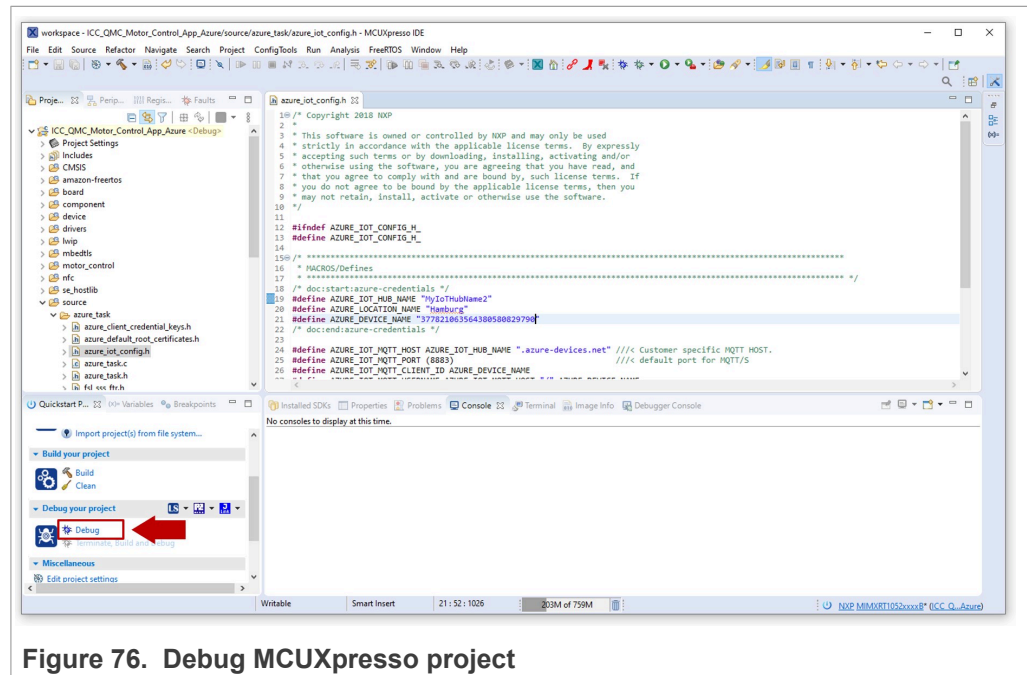

Figure 76. Debug MCUXpresso project
- 4. After the setup is ready, go to the MCUXpresso Quickstart Panel and click **Debug** button as shown in Figure 76. Wait a few seconds until the project builds and executes: